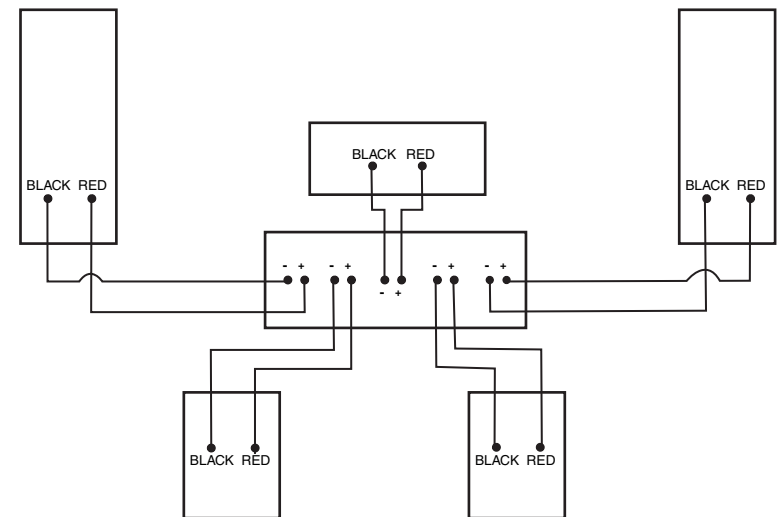

FIGURE 4 Connecting Speakers to Amplifier or Receiver
**Note: To ensure proper performance, make sure that the wire from the red (+) terminal on the speaker is connected to the red (+) terminal on your amplifier or receiver. Likewise, make sure the wire from the black (-) terminal on the speaker is connected to the black (-) terminal on the amplifier or receiver. (Figure 4)**